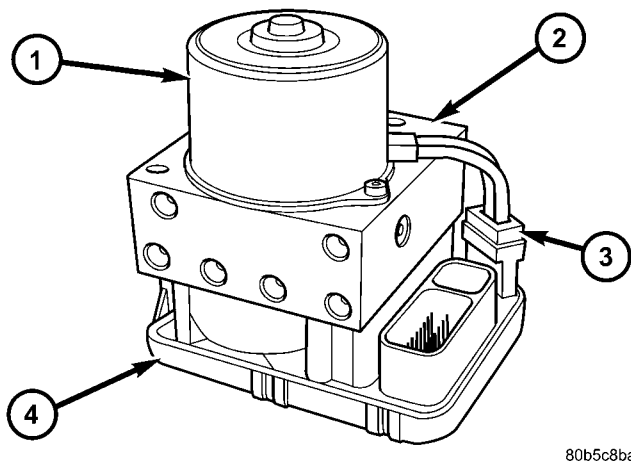

Fig. 19 Integrated Control Unit (ICU)
(1) Remove the ICU from the vehicle. Refer to REMOVAL.
(2) Disconnect the pump/motor wiring harness from the CAB (Fig. 19).
- (3) Plug the pump/motor wiring harness into the CAB (Fig. 19).
- (4) Install the ICU in the vehicle. (Refer to 5 - BRAKES - ABS/HYDRAULIC/MECHANICAL/ICU